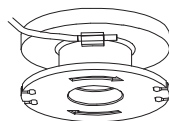

Fig. 26
2. Hold the trimmer head (13) steady with one hand. Press the release latches (13b) on both sides to remove the cover (13a).
7. Lead one end of the new trimming line (13d) through the small eyelet on the trimming spool (13c) in direction of the arrows (Fig. 26).